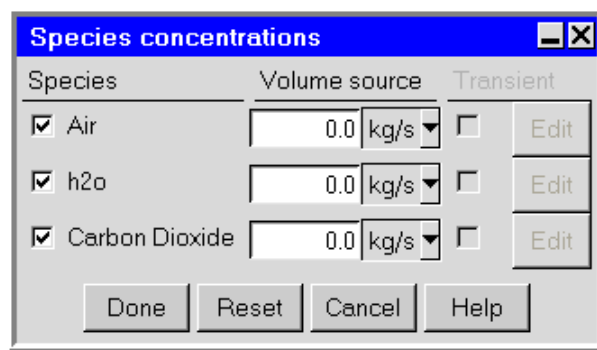

Figure 21.2.6: The Species concentrations Panel for a 3D Resistance
- i. Select the check box for each **Species** for which you want to set a volume source in the **Species concentrations** panel (Figure 21.2.6).